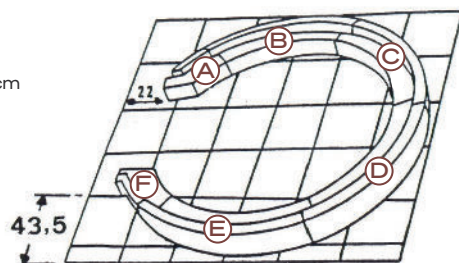

Figure 1
**Step 2, figure 1:** Build a concrete slab measuring at least 210 (width) x 210 (depth) x 20 (thickness) cm (W200xD200x20 cm for insulation with vermiculite concrete) and let it dry for at least 28 days. Create a thin bed of lean mortar (2 to 3 cm thick) using standard cement. Follow the configuration depicted in picture 1 to place the 36 base slabs moistened beforehand on top of the mortar bed. Make sure they are properly aligned and that the top surface is leveled. No joint mortar is required. Remove any excess mortar from around the base. **Allow the floor to dry for 24 to 48 hours before proceeding.**
**Step 3, figure 1:** Temporarily position the two elements (A) and (F) of the base crown as indicated, and mark a circle with a diameter of 130 cm using string and chalk. Proceed to assemble the remaining 4 elements (B)(C)(D)(E) of the crown, aligning them along the marked line without creating any joints between them.